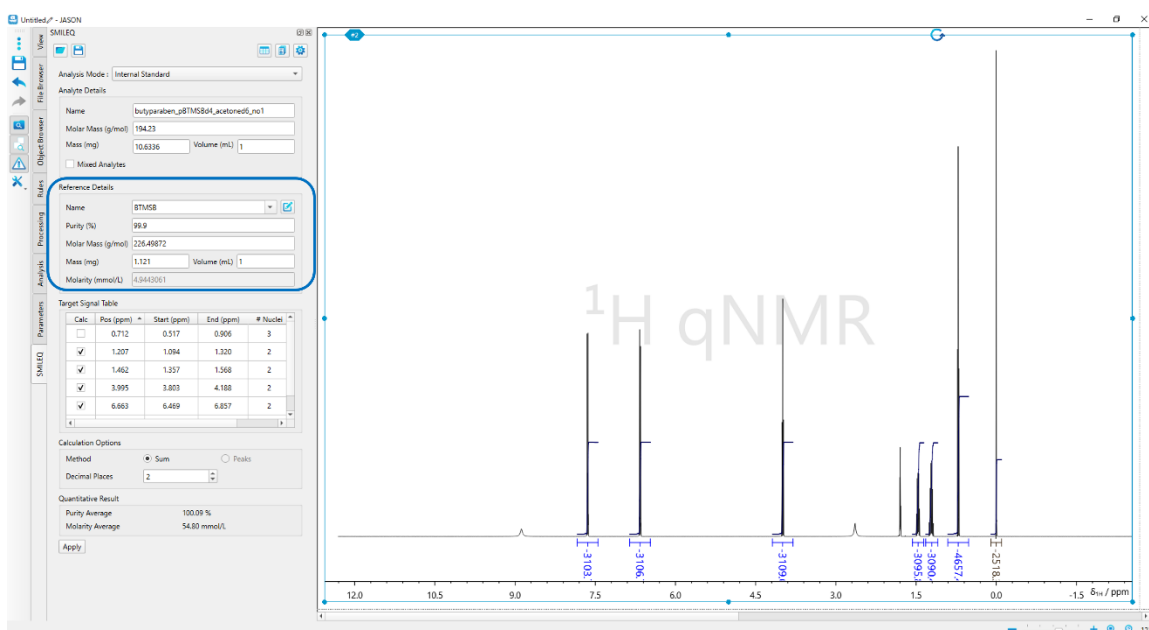

Figure 28: SMILEQ widget after selecting the reference
- Fill in the box at reference information area. Select the desired reference from the **"Name"** and enter the reference parameters required for the analysis (see section 2.1.1.2 and Figure 28.)